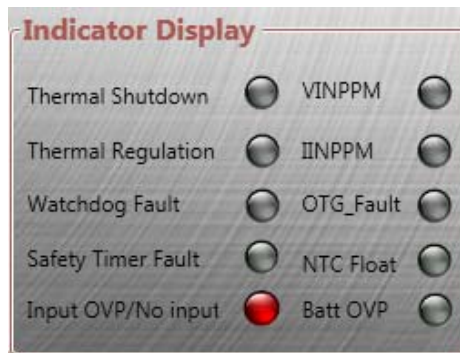

Figure 30: Fault Monitoring Indicator Display
- MP2731 fault monitoring (see Figure 30)